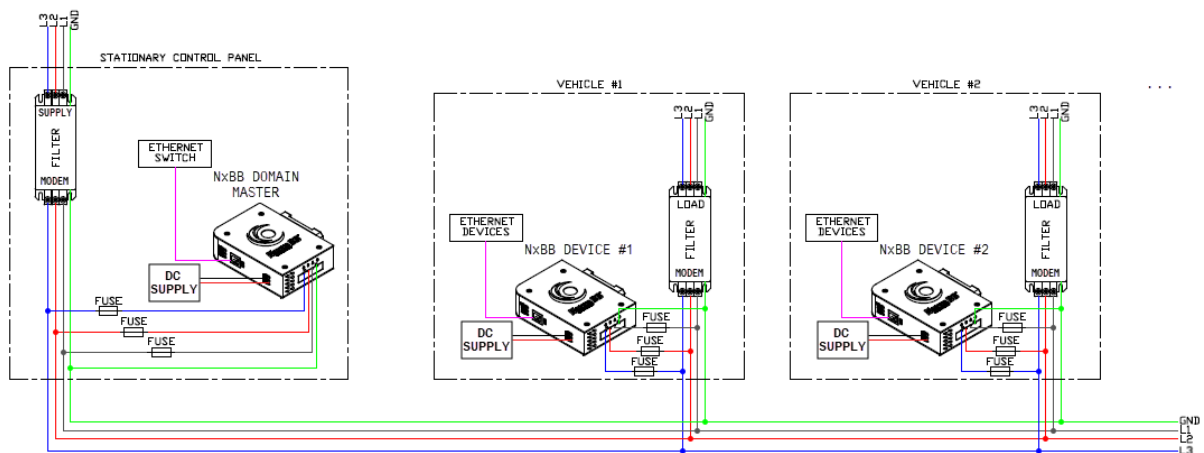

Figure: 7.8 - NxBB MIMO Communication Topology for Externally-Powered modems
- Use terminals C, B, and A for MIMO operation. (see Figure: 7.8).